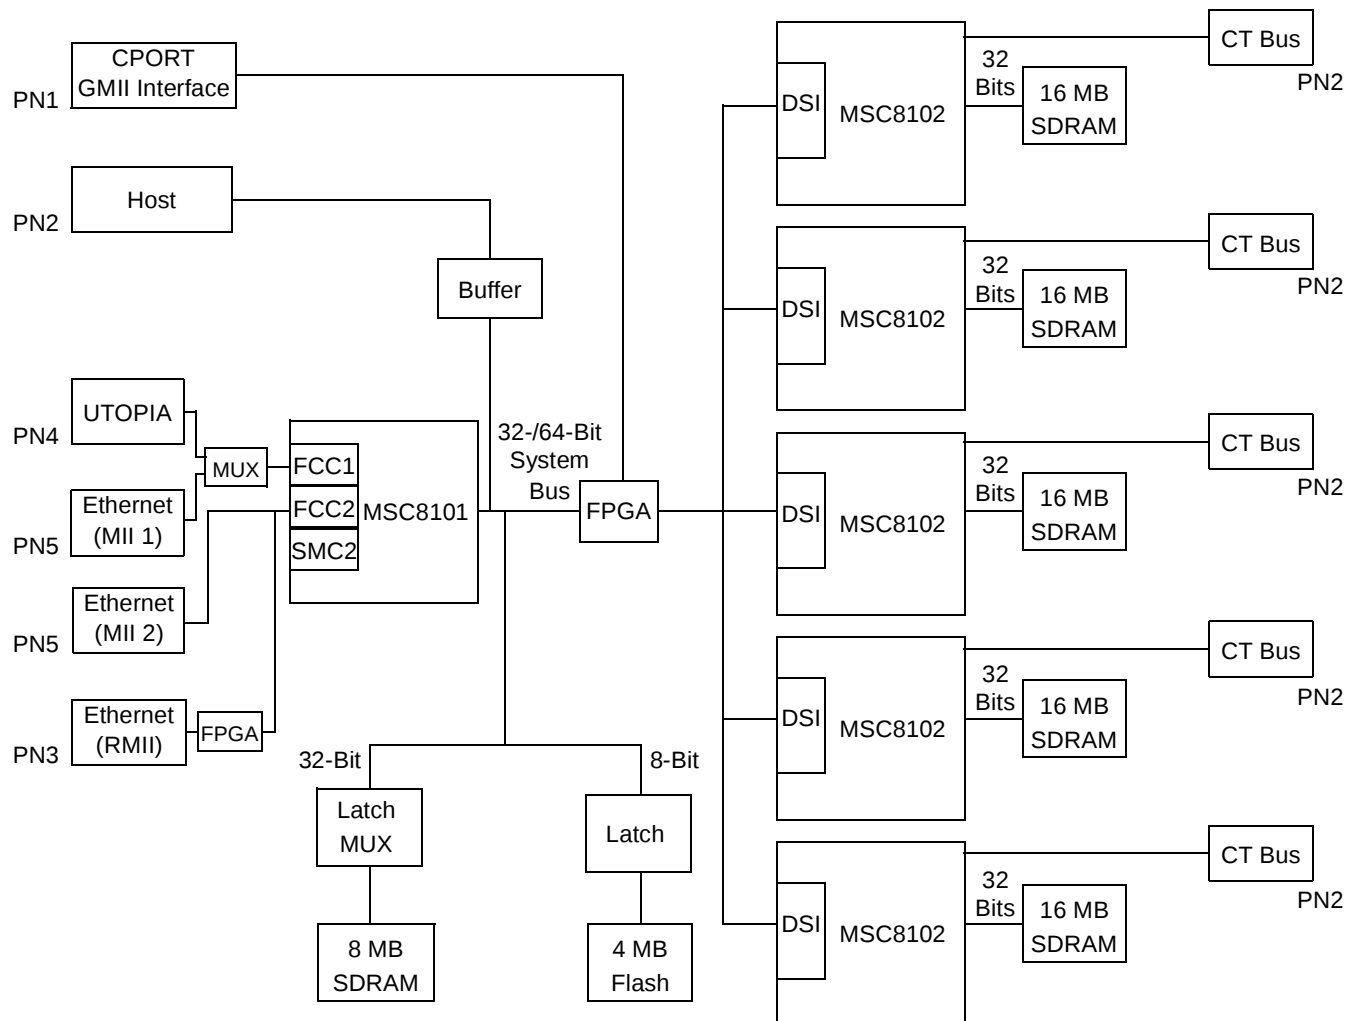

Figure 2. MSC8102PFC Architecture
Features of the MSC8102PFC are as follows (see **Figure 2**):
2. Place the PFC onto the PDK as shown in **Figure 2**.